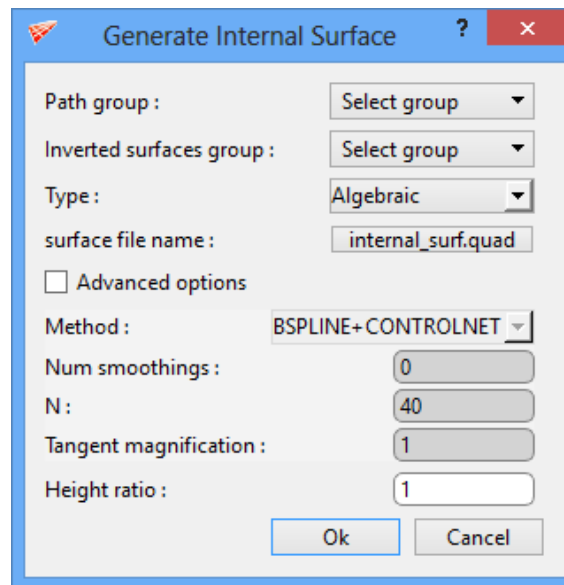

Figure 4.117: Internal surface dialog box
***Internal surface*** is another tool which creates a quad surface using the corners created at the intersection of surfaces. The ***Intersection*** tool should be used first to obtain the corners at the intersection. The corners created is the path group to be used. Figure 4.117 shows the dialog box of the Internal surface.